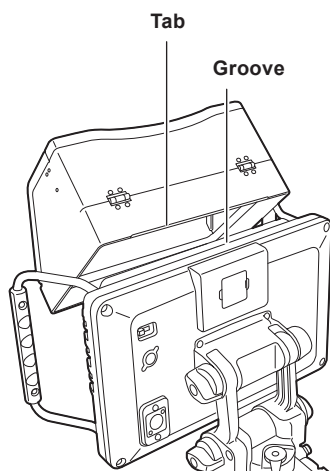
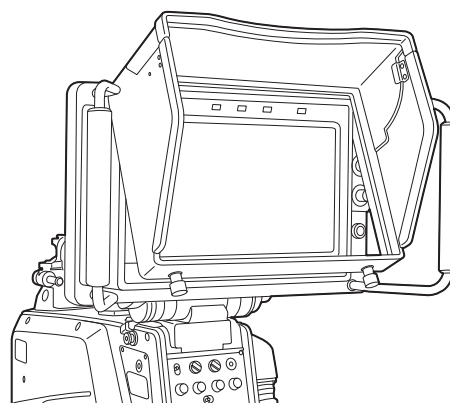

Fig. 1
Fig. 2
- 1** Hook the tab on the hood to the groove at the top. (Fig. 1, Fig. 2)